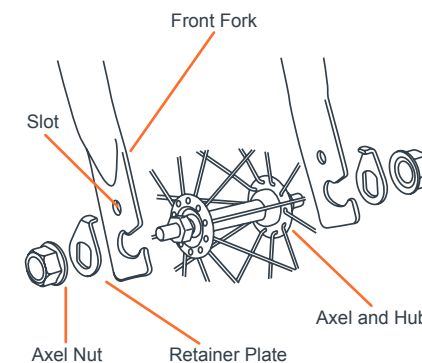

Fig. 3
- 3) •** Slide the retainer plates onto the front wheel. Be sure that the raised lip is pointing toward the fork and insert it into the slot on the fork. The tab on the retainer plate must be lined up with the slot before tightening the wheel (Fig. 3).